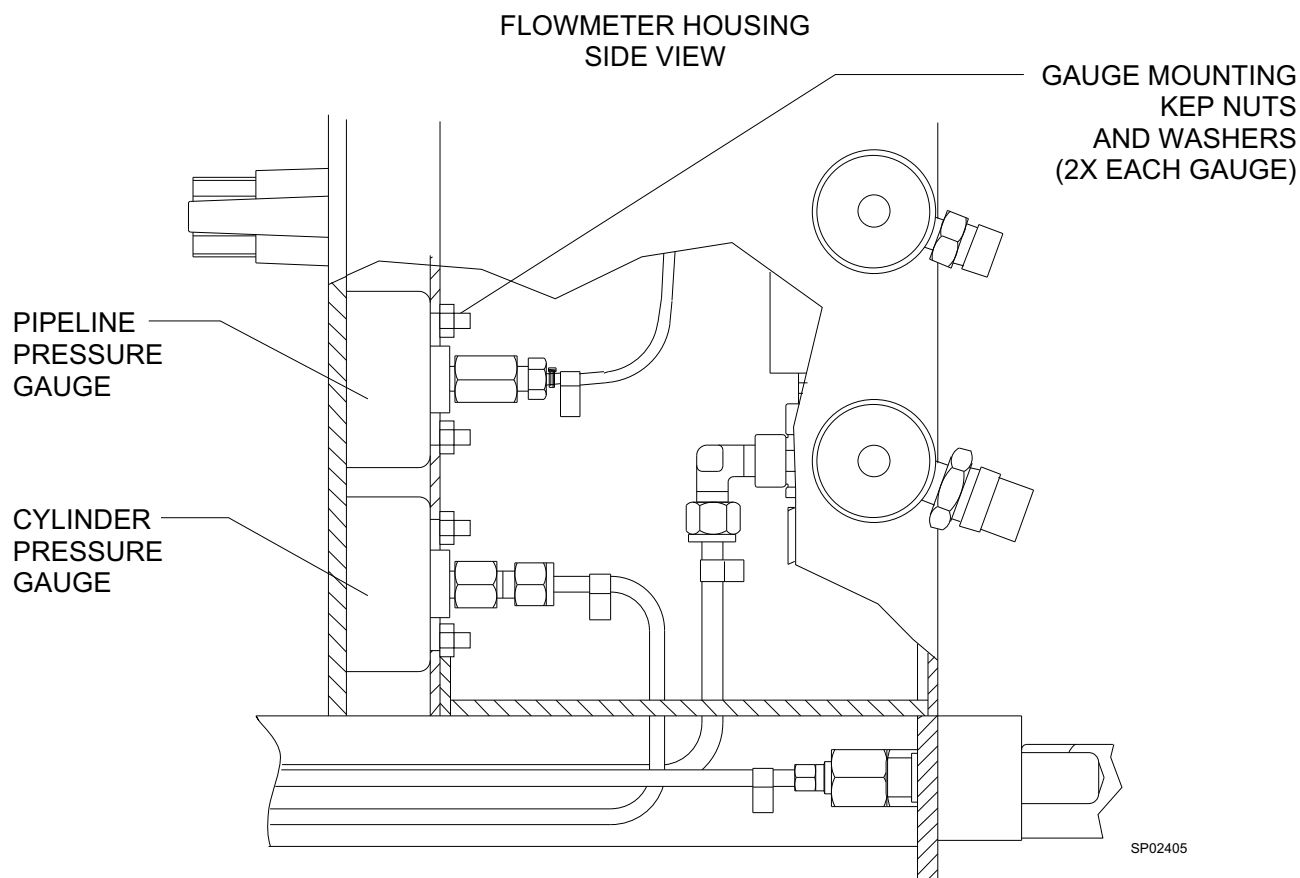

Figure 4: AIR CYLINDER AND PIPELINE GAUGE MOUNTING
20. Place an air pipeline gauge assembly into the upper hole of the gauge channel labeled "Air" Pipeline, and secure it with two 10-32 kep nuts and flat washers. See figure 4.